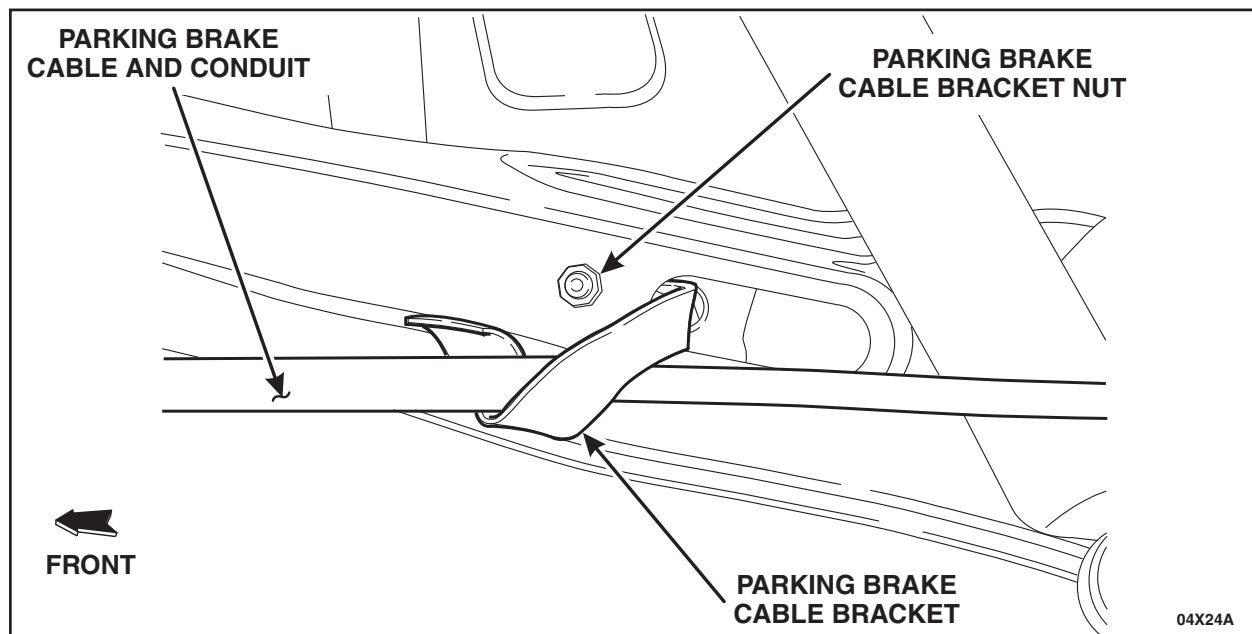

FIGURE 5
2. Remove the parking brake cable bracket nuts and position the parking brake cable brackets aside. See Figure 5.
21. Position the parking brake cable brackets in place and install the parking brake cable bracket nuts. See Figure 5.